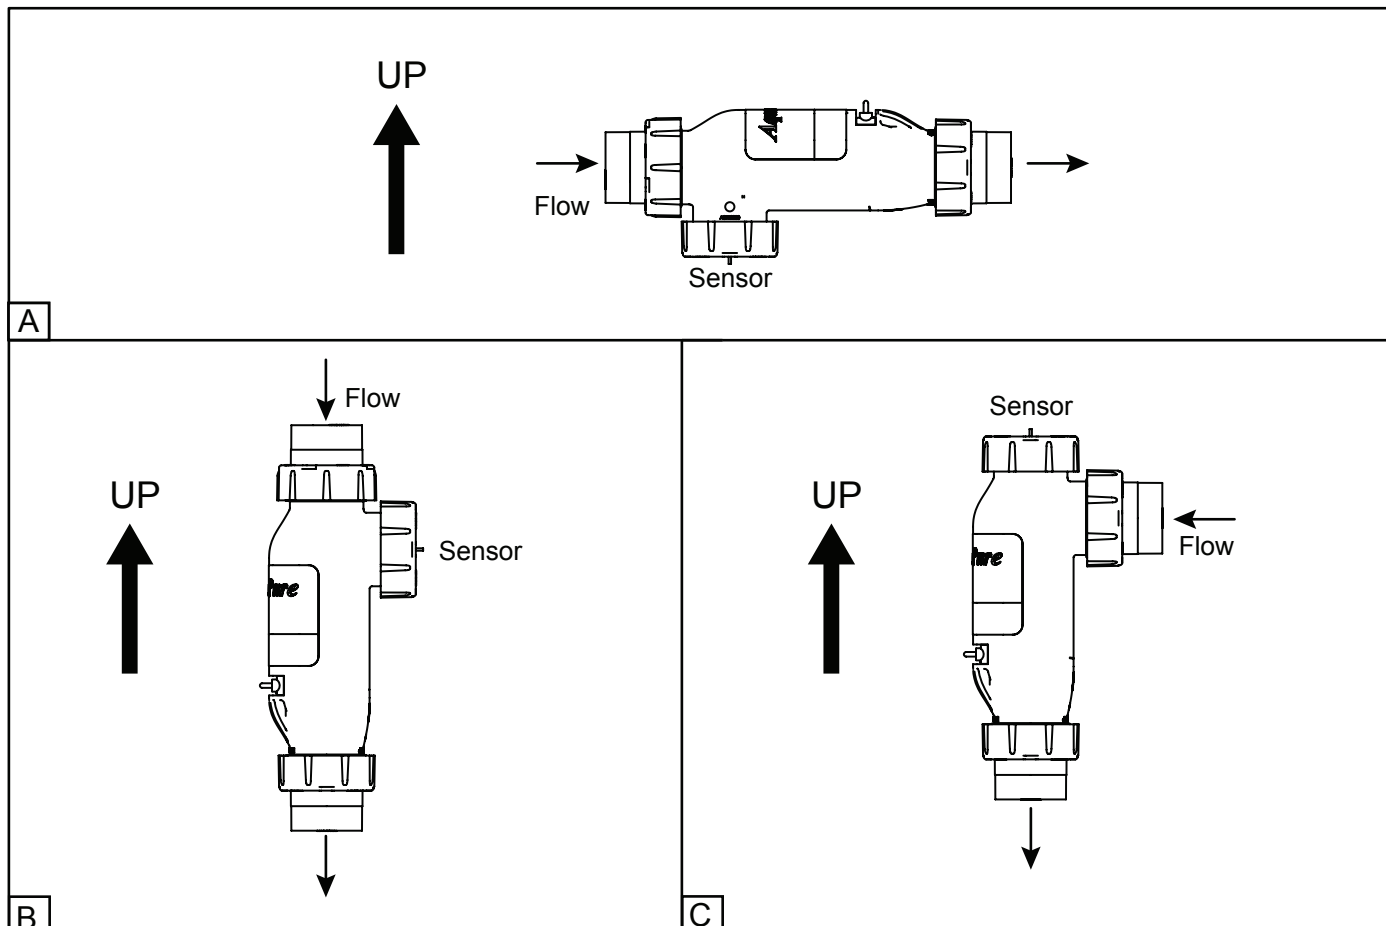

Figure 3. Chlorine Generator Cell and Sensor Orientation with Flow Direction
The flow/salinity sensor must be mounted as in Section 3.2, Figure 3.
2. It is recommended that the flow/temp/salinity sensor and electrolytic cell be installed in the pool return line after the filter and heater. The cell can be installed in either a horizontal or a vertical position. See Figure 3.